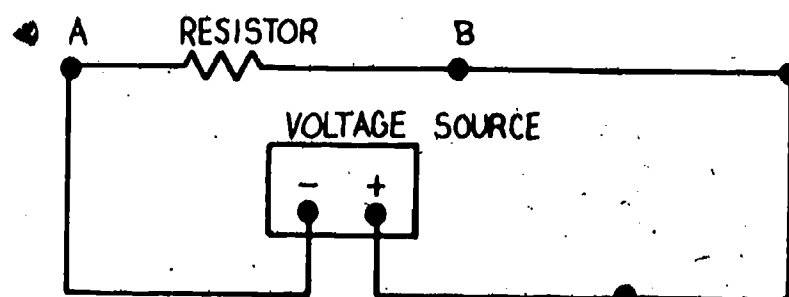

Figure 1
4. Meter Connection To be measured, all of the current that flows through the component must also go through the meter. To make this possible, it is necessary to open the circuit and insert the meter in series. Do not connect as a voltmeter or ohmmeter or you will probably damage the meter. Assume we have the circuit of Figure 1, and we wish to measure the current at point B.